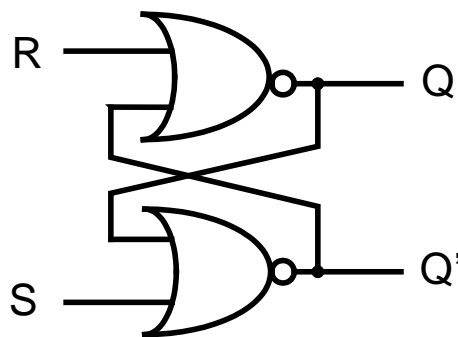
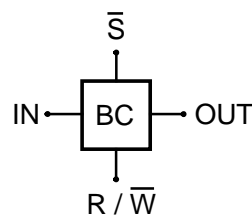

Figure 11.1. RS latch using NOR gates.
Figure 11.4. Symbol for a binary cell.
Consider the circuit shown in Figure 11.1. The output of a NOR gate is true (logic 1 or high) only when both inputs are false (logic 0 or low). The output of each NOR gate is fed back to the input of the other NOR gate. This means that if the output of one NOR gate is true, then the output of the other NOR gate must be false.
This BC can be one of many binary cells in a computer system. Let us use Fig. 11.4 as a symbol for a BC.
1) Build the circuit shown in Fig. 11.1. Use switch and pull-up resistor circuits to manually apply the R and S inputs, and use NOT gate, LED and resistor circuits to show the outputs Q and Q'. **Give the characteristic table for the circuit. What happens to Q when both inputs are set to logic 1 and then to logic 0? Try this several times. Are the results always the same?**
2) Build the BC of Fig. 11.4, which is detailed in Figs. 11.1 and 11.3. **For every one of the eight possible combinations of the three inputs, IN, R/\bar{W} , and \bar{S} , give the resulting output OUT.** Use switch and pull-up resistor circuits to manually apply the three inputs, and use a NOT gate, LED and resistor circuit to show the output, OUT. **Provide a table showing your results. Describe what you must do to read the BC. Describe what you must do to write a bit into the BC, where you must write logic 0 and then logic 1 and check each write operation by reading the BC to find if each write operation worked.**